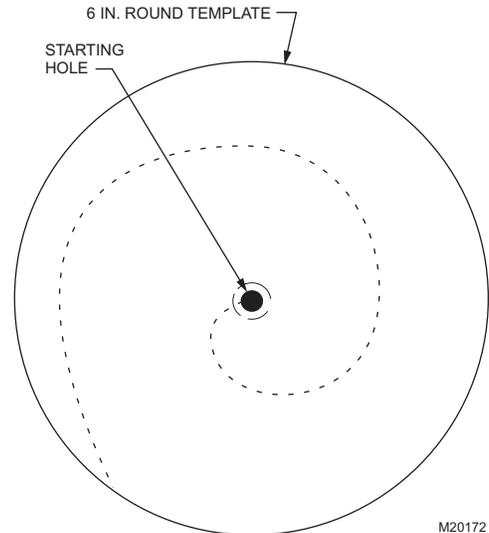

Fig. 9. Cutting Bypass hole.
3. Remove the collar and carefully cut out the circular opening using tin snips. See Fig. 9. (Use a drill to start the cut in the middle of the circle. Cut in an outward spiral to assist in controlling the cut.)